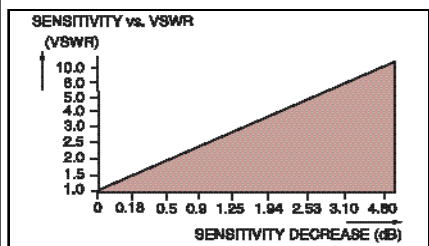

figure 3: Sensitivity vs. VSWR
3. For BER of 10-5 @ 4800 baud.Sensitivity is affected by antenna SWR.See figure 3.